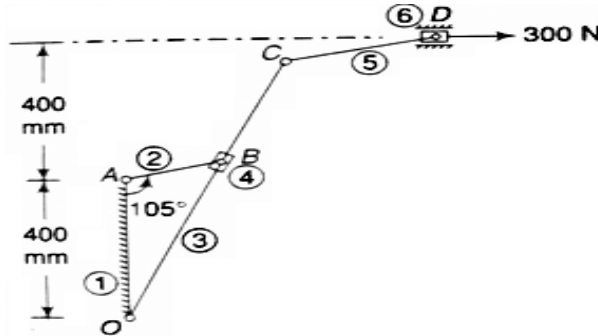

Figure 3b
- b. For the static equilibrium of the quick-return mechanism shown in Figure 3b, determine the input torque T_2 to be applied on the link AB for a force of 300 N on the slider D. The dimensions of the various links are $OA = 400$ mm, $AB = 200$ mm, $OC = 800$ mm, $CD = 300$ mm.